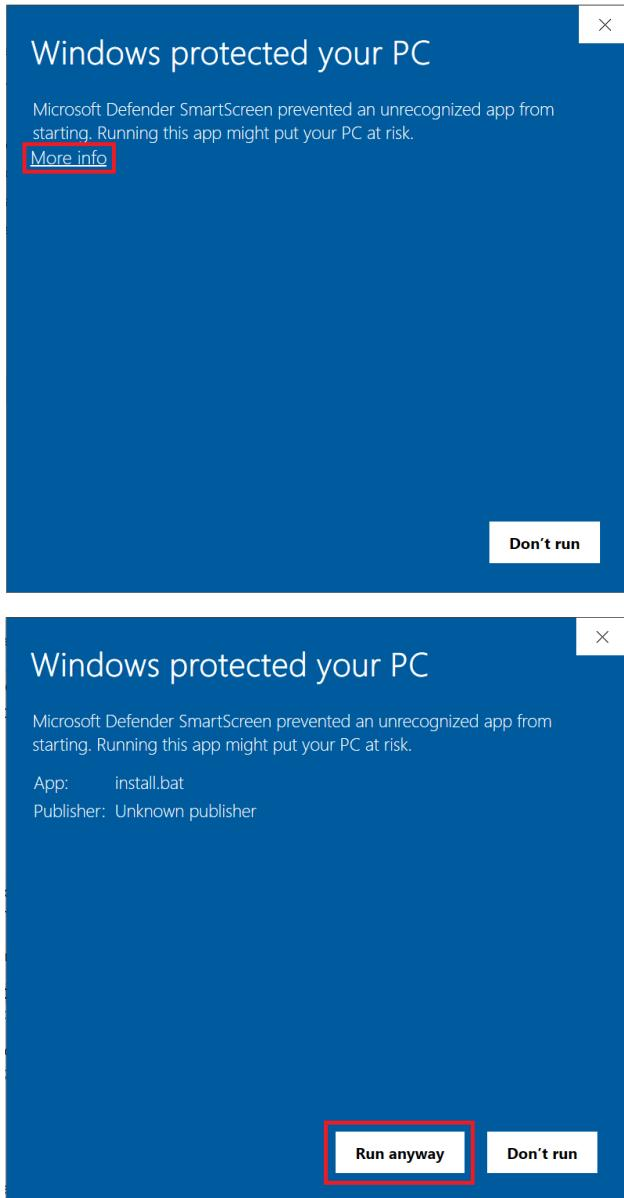

Figure 2: How to dismiss Windows Defender warning
2. Windows Defender typically warns the user when running the NEEA TV EASY installer. You can dismiss this warning by clicking where shown in Figure 2.